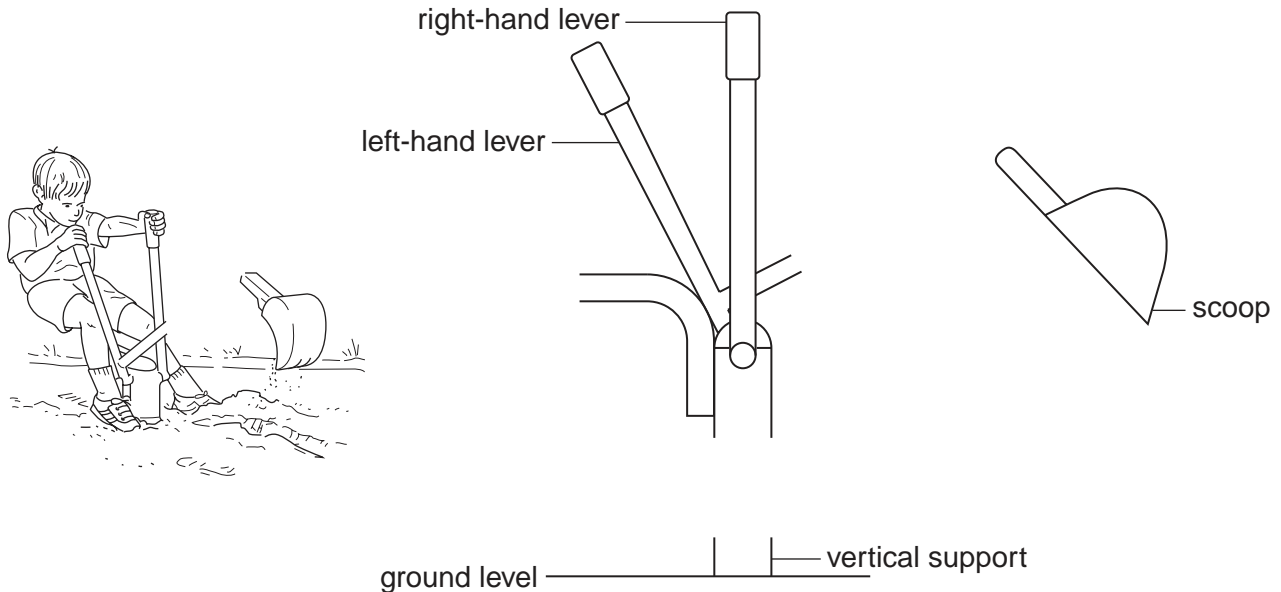

Fig. 10
- 9 Fig. 10 shows an incomplete idea for a child's mechanical digger to be used in a playground sandpit. Most of the digger is made from metal. The levers enable a child to raise and lower the scoop, fill it with sand and tip the sand out.